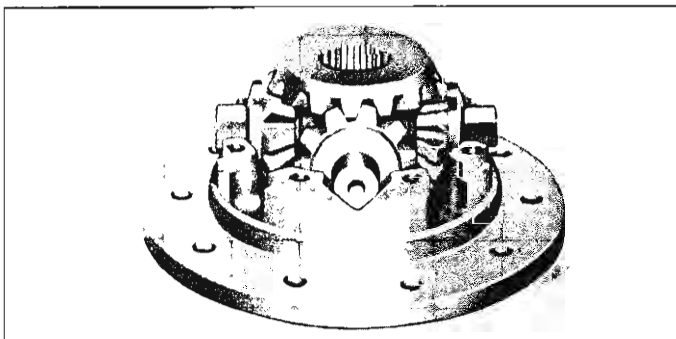

Fig. 42—Remaining Shaft and Gear Installation
4. Install remaining shaft and gears as shown in Figure 42.